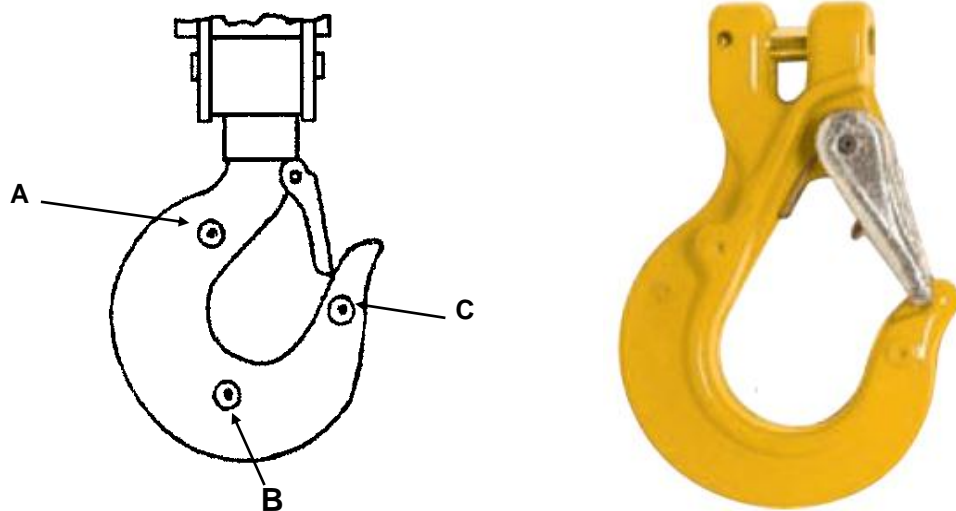

FIG 2.
- Check the hooks to see that the set is still standard and has not been opened by overloading. If the distance between points A and C is 15% more than the distance between points A and B, the hook must be replaced. (Fig 2)